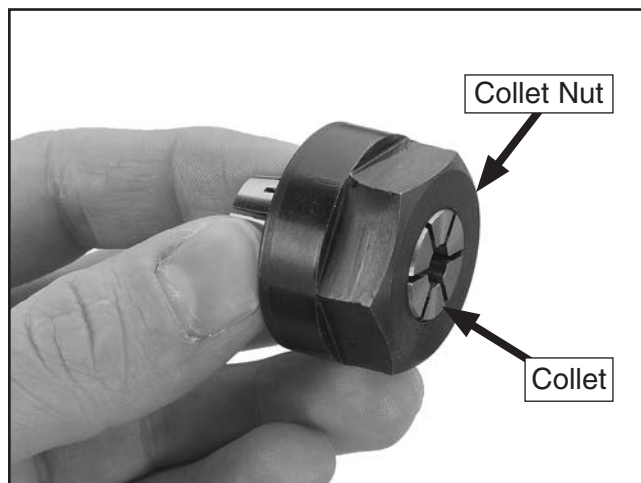

Figure 50. Collet snapped into collet nut.
7. Place desired collet into collet nut by pushing it in until it snaps into place (see **Figure 50**).